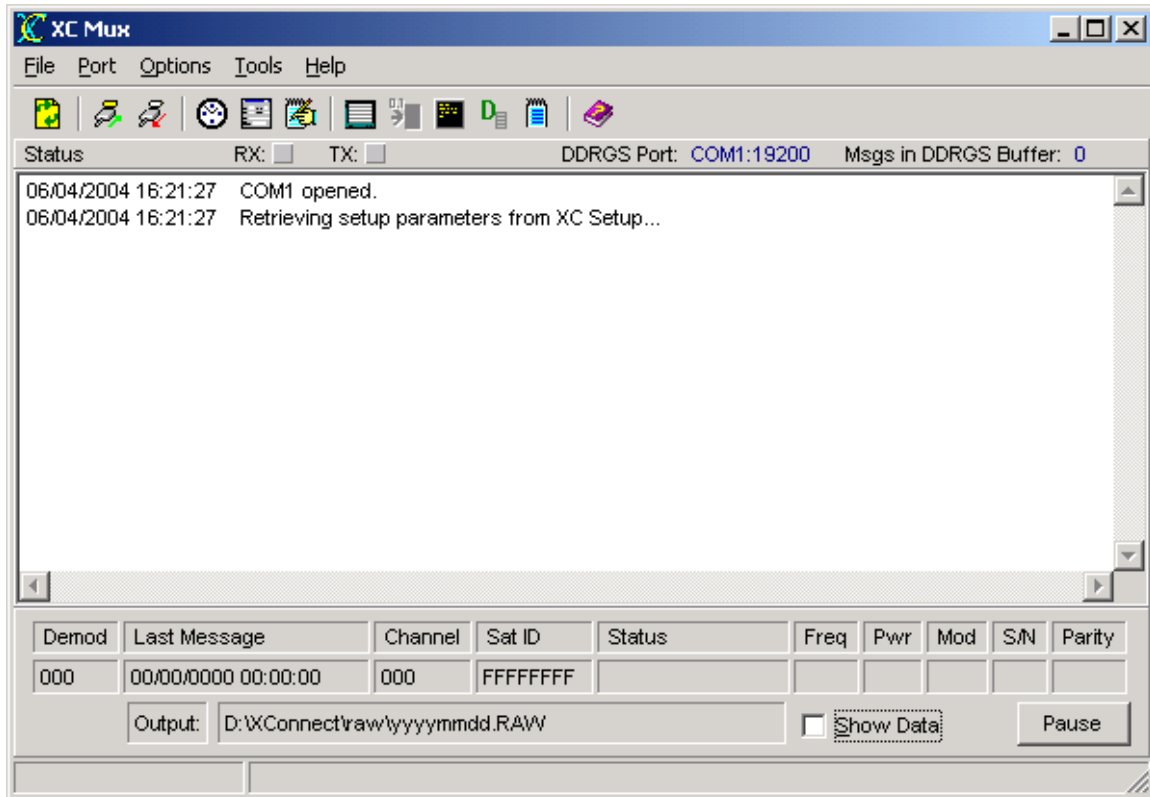

Figure 1. XC Mux main window
- Figure 1. XC Mux main window 3